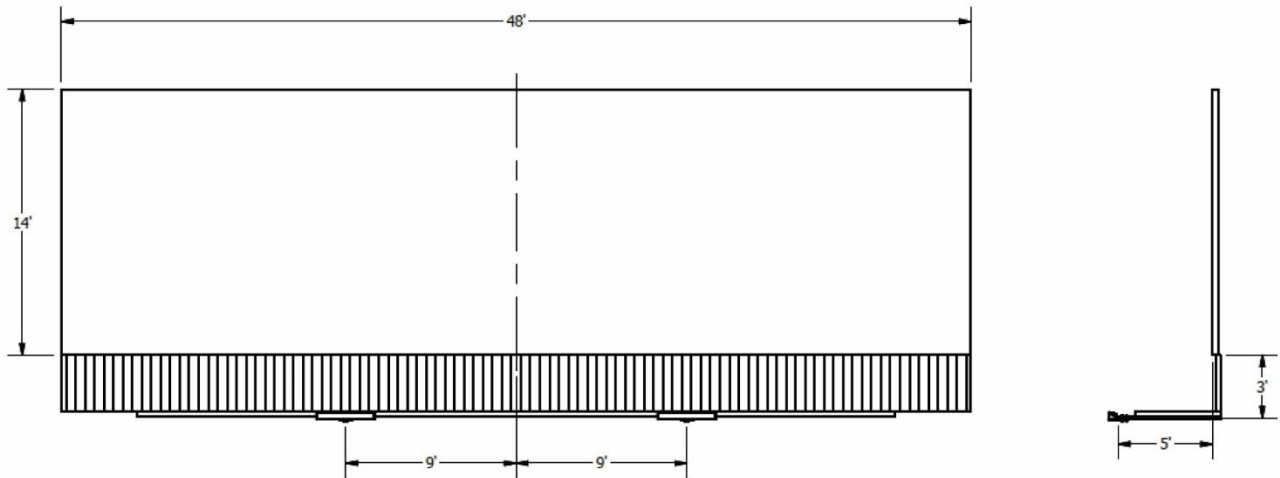

Figure 1
2. Standard Billboard (14' x 48') mounting: Position the Round or Square conduit underneath the crosswalk of the Billboard as shown in Figure 1 and secure with U-Bolts firmly to ensure they will support the weight of the fixture. Each pipe should be 9' from the center of the Billboard, 3' down from the bottom of the Billboard, and a distance of 5' from the face of the Billboard. If existing hardware is reused you may need to relocate or replace components for proper alignment.